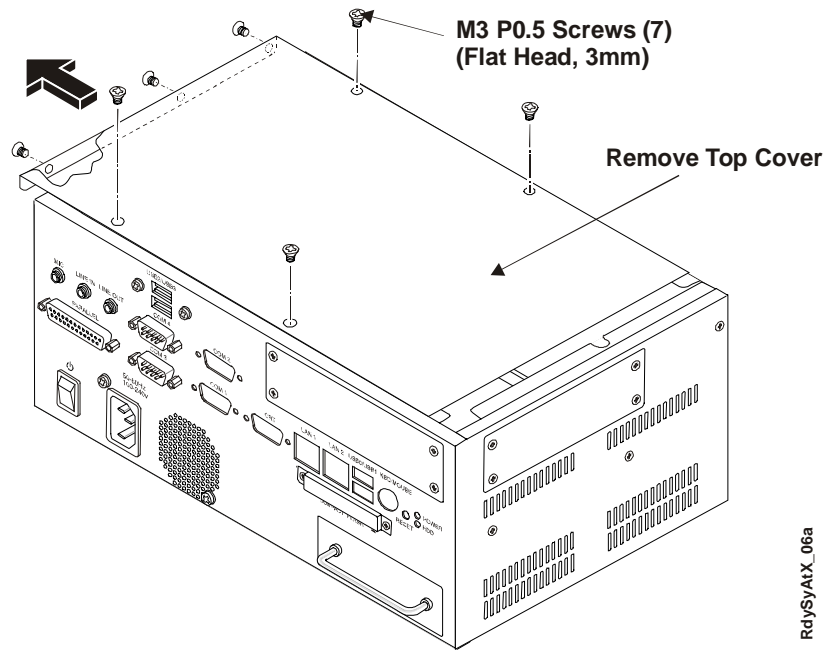

Figure 2-3. Removing the ReadySystem ATX Top Cover
4. Remove the seven screws holding the top cover to the ReadySystem enclosure and then slide the cover to the left as shown in the Figure 2-3.
3. If the top cover was replaced with a few screws holding it in place, remove all the screws holding it in place and then slide the cover to the left as shown in Figure 2-3.
4. Remove the seven screws holding the top cover to the ReadySystem ATX enclosure and then slide the cover to the left as shown in the Figure 2-3.